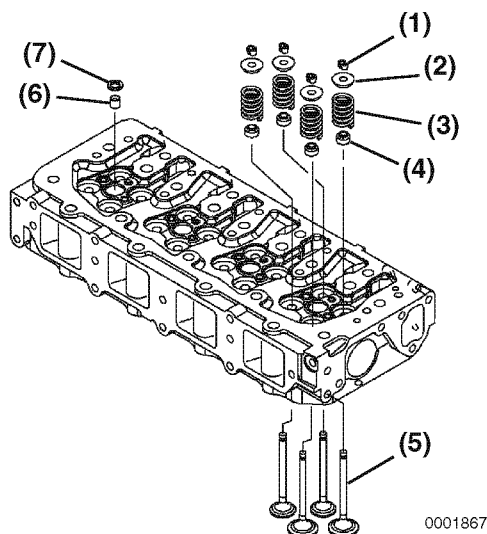

Figure 6-49
3. Remove the valve keepers (**Figure 6-49, (1)**).
5. Remove the spring retainer (**Figure 6-49, (2)**), valve spring (**Figure 6-49, (3)**).
7. Remove the injector nozzle protectors (**Figure 6-49, (6)**) and the seats (**Figure 6-49, (7)**).
8. Turn the cylinder head so the exhaust port side faces down. Remove the intake and exhaust valves (**Figure 6-49, (5)**) from the cylinder head.
9. Remove the valve stem seals (**Figure 6-49, (4)**).